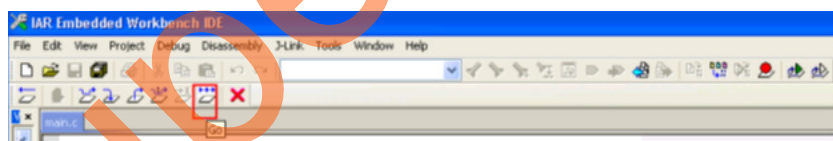

Figure 42 • IAR Workbench - Go Option
- Click **Go** on IAR workbench to run the application as shown in Figure 42.